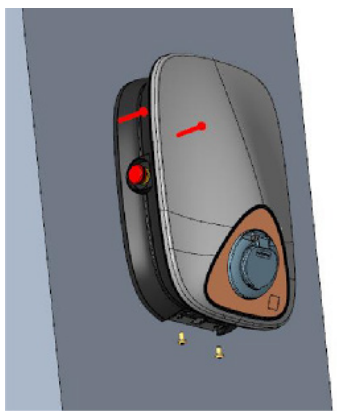

Figure A-9 Hanging charger and bottom fastening
10. Hang the charger through the two recessed buckles in the rear case and the two screws on the wall, screw in the two M6*12 Torx screws below to tighten the charger and the wall hanging fitting, as shown in Figure A-9 As shown: